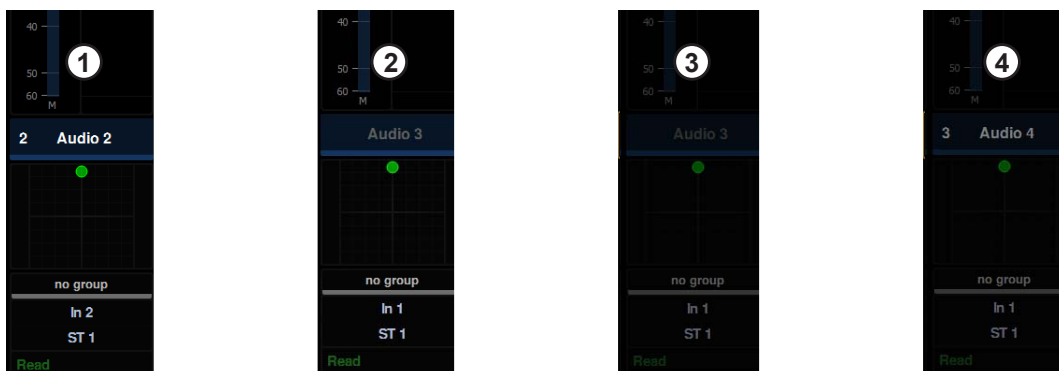

Figure 115. Hidden tracks on Display Modules
- If a track is active, shown, and unmuted, it appears fully lit (“1” in Figure 115).
- If the track is hidden but unmuted, track name (only) is dimmed, and no track number is shown (“2” in Figure 115).
- If the track is hidden and muted, the entire strip is dimmed, and no track number is shown (“3” in Figure 115).
- If a track is muted, the entire strip is dimmed, track name is dimmed slightly, and track number is shown (“4” in Figure 115).